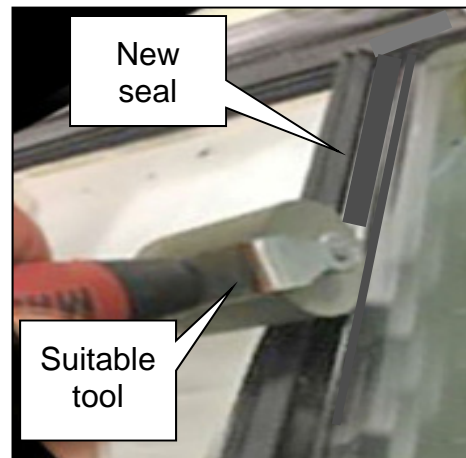

Figure 17
10. Using a suitable tool, apply pressure to the new seal to force out any excess adhesive (Figure 17).